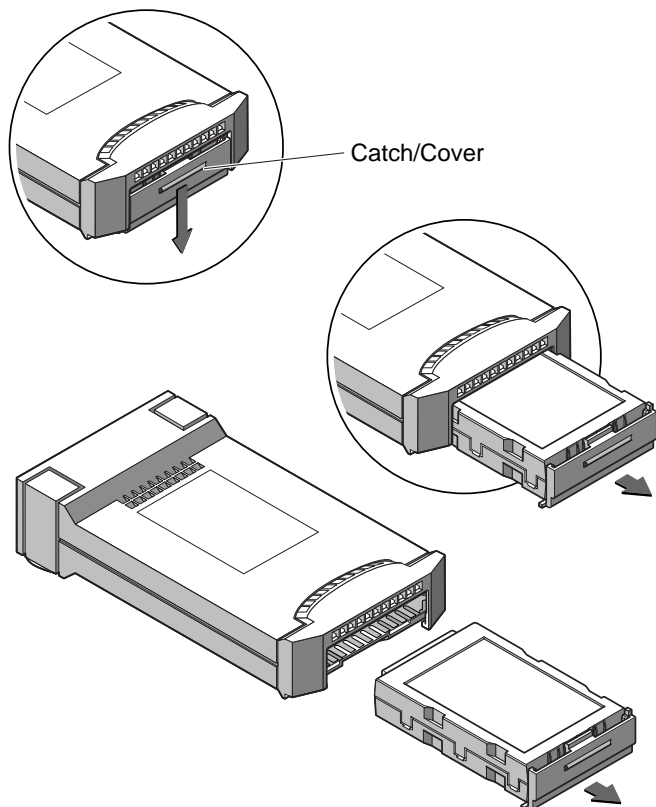

Figure 6-4 Removing an RHDD From an Adapter
- 2.** Slide the drive's integral catch/cover downwards; see Figure 6-4.